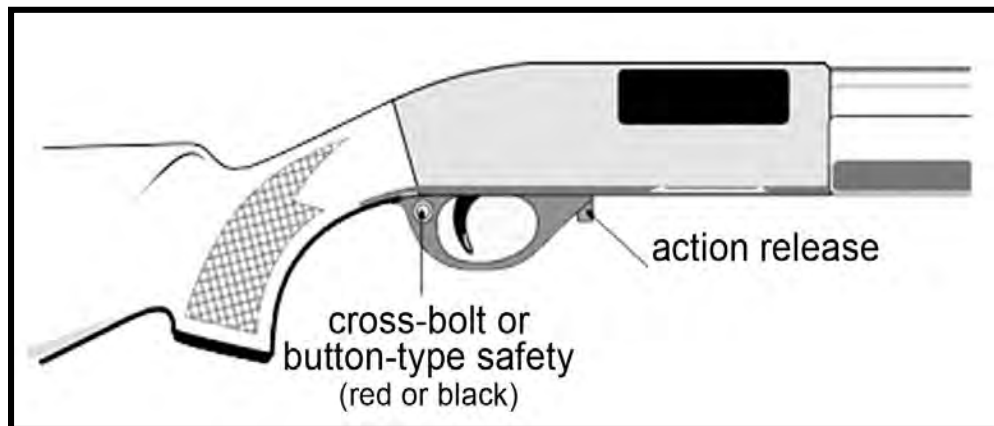

Figure 45. Cross-bolt Safety
- a. The cross-bolt safety (Figure 45) is a push-button type of safety. It is common on many types of firearms. It works by blocking the trigger mechanism or hammer.